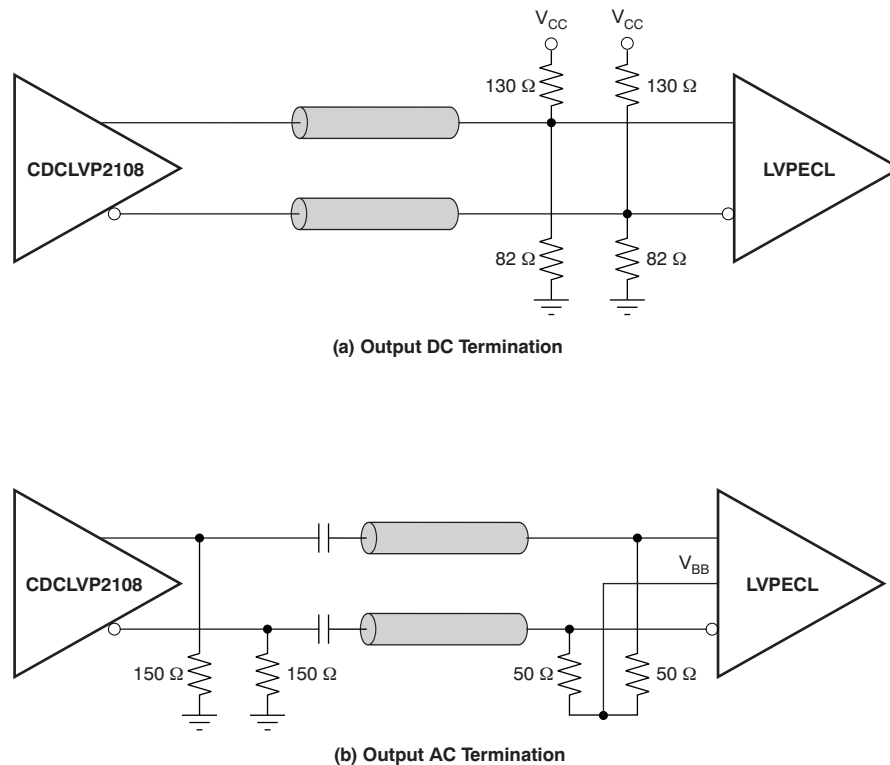

Figure 13. LVPECL Output DC and AC Termination for $V_{CC} = 3.3\text{ V}$
The CDCLVP2108 is an open emitter for LVPECL outputs. Therefore, proper biasing and termination are required to ensure correct operation of the device and to minimize signal integrity. The proper termination for LVPECL outputs is a $50\ \Omega$ to $(V_{CC} - 2)\text{ V}$, but this direct-coupled (DC) voltage is not readily available on PCB. Therefore, a Thevenin equivalent circuit is worked out for the LVPECL termination in both DC- and AC-coupled configurations. These configurations are shown in Figure 12 (a and b) for $V_{CC} = 2.5\text{ V}$ and Figure 13 (a and b) for $V_{CC} = 3.3\text{ V}$, respectively. TI recommends placing all resistive components close to either the driver end or the receiver end. If the supply voltage for the driver and receiver is different, AC coupling is required.
The CDCLVP2108 is an open emitter for LVPECL outputs. Therefore, proper biasing and termination are required to ensure correct operation of the device and to minimize signal integrity. The proper termination for LVPECL outputs is $50\ \Omega$ to $(V_{CC} - 2)\text{ V}$, but this DC voltage is not readily available on PCB. Therefore, a Thevenin equivalent circuit is worked out for the LVPECL termination in both direct-coupled (DC) and AC-coupled configurations. These configurations are shown in Figure 12 a and b for $V_{CC} = 2.5\text{ V}$ and Figure 13 a and b for $V_{CC} = 3.3\text{ V}$, respectively. TI recommends placing all resistive components close to either the driver end or the receiver end. If the supply voltage for the driver and receiver is different, AC coupling is required.